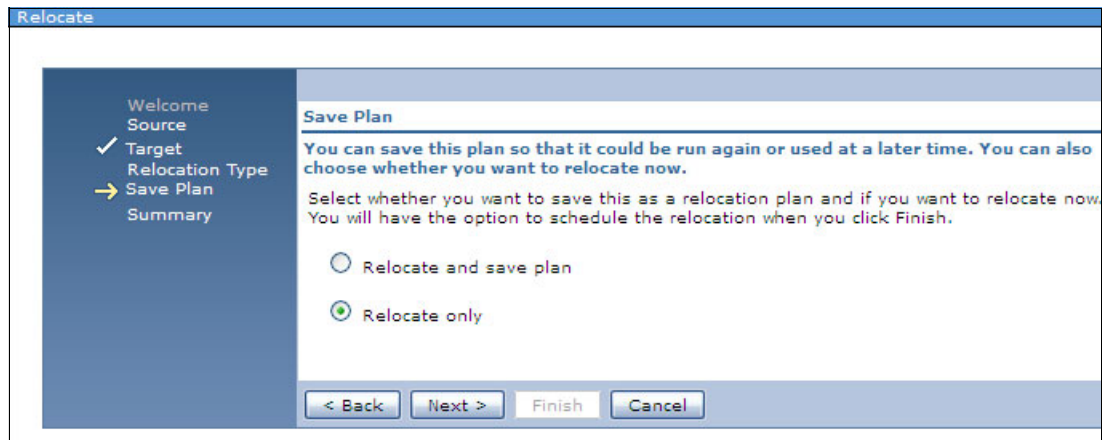

Figure 11-27 Relocate Save Plan window
4. You can save the plan for relocation to run it again or use it later, if needed. Select **Relocate only** and click **Next** as shown in Figure 11-27.